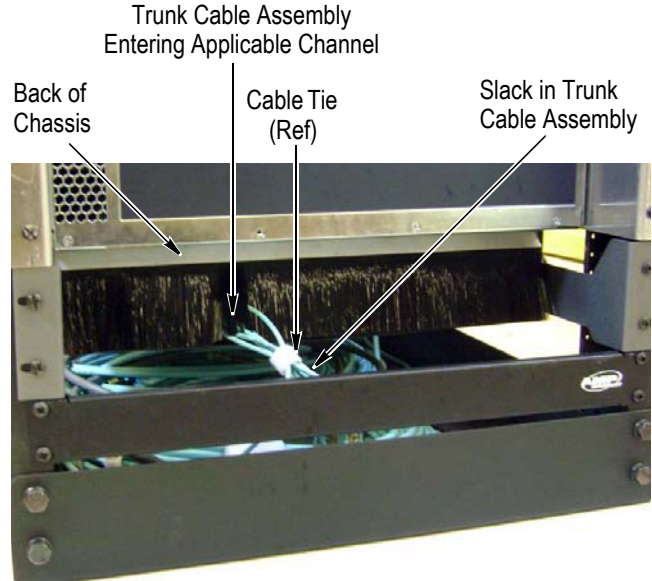

Figure 6
2. Insert each truck cable assembly into the back of the chassis so that it enters the applicable channel, then slide the truck cable assembly through the channel until the MPO connector exits the front of the chassis. Allow a small amount of slack in the truck cable assembly at the back of the chassis. See Figure 6.
3. If desired, loosely wrap Hook and Loop Cable Tie 1375253-2, or similar cable tie, around the trunk cable assemblies to provide strain relief at the back of the rack or cabinet. Refer to Figure 6.